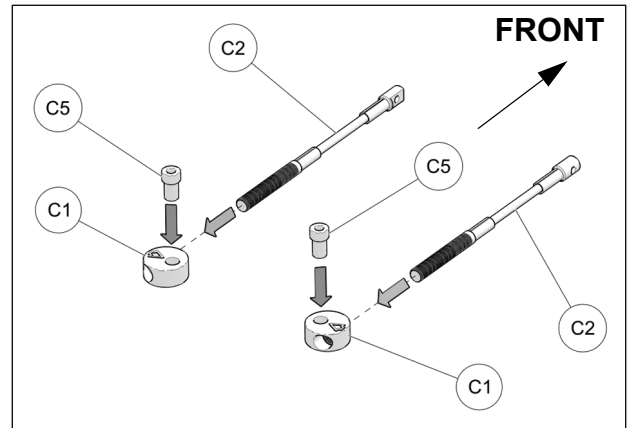

Fig. 21
- Assemble steering limiter cables (C2), aluminum disks (C1) and step spacers (C5) together as shown on Fig. 21